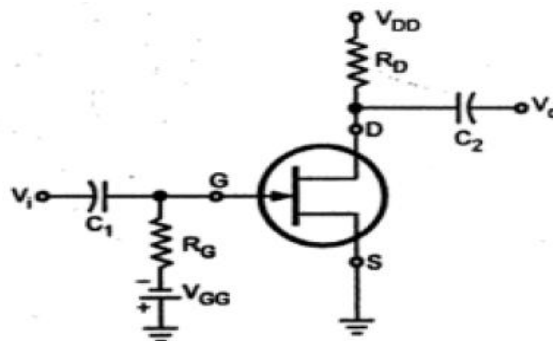

Fig. 4.8 Fixed Bias Circuit for the n-channel JFET
- Fig. 4.8 shows the fixed bias circuit for the n-channel JFET.